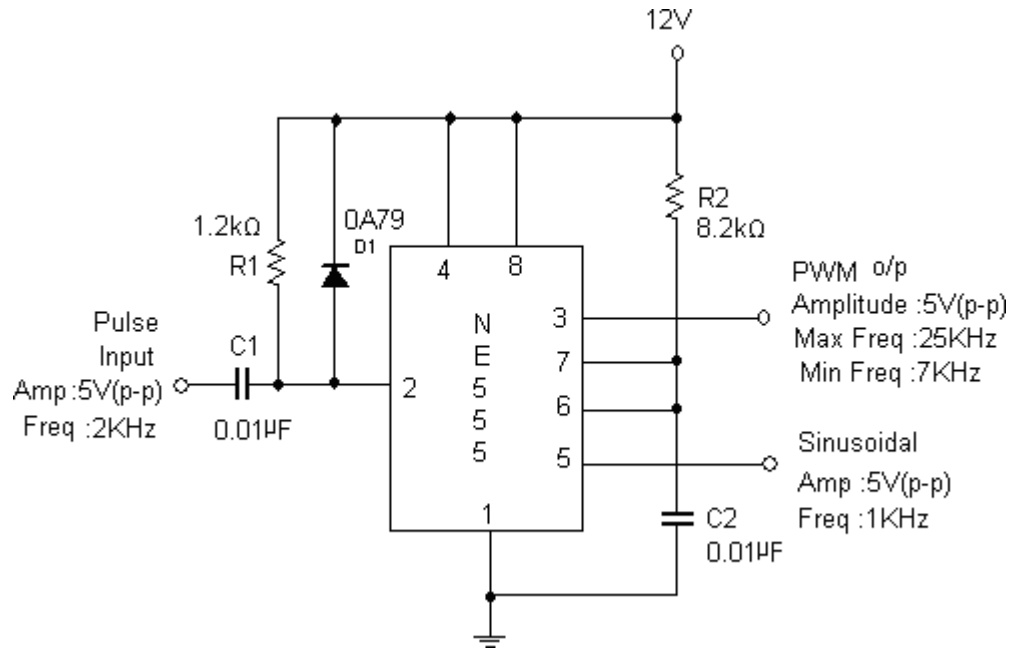

Fig: 7.1 Pulse Width Modulation Circuit
1. Connect the circuit as per circuit diagram shown in fig 7.1.